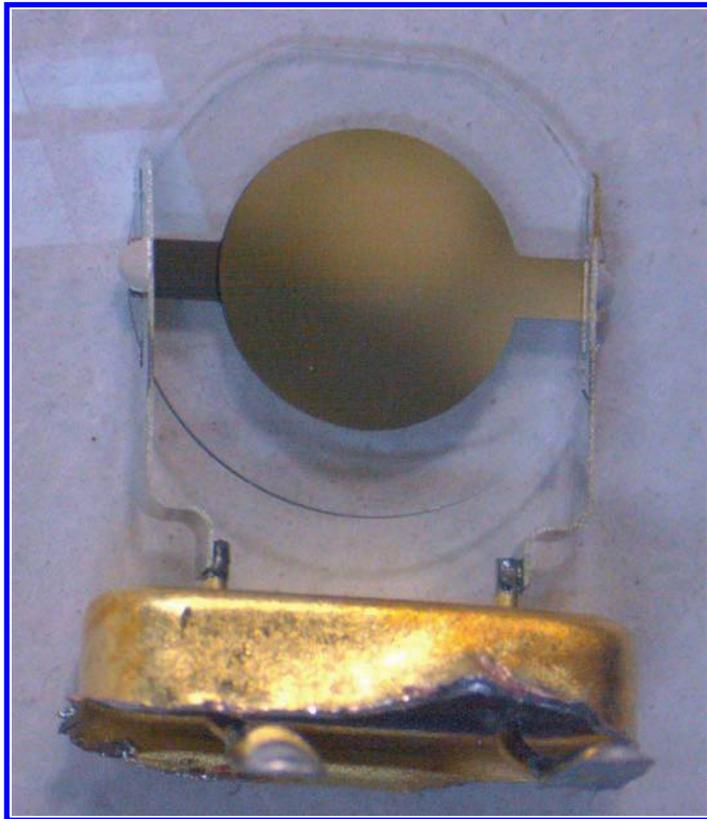

FIGURE 11.19
- #5 *RF Downconverter*: Just as with a smartphone, the usefulness of a GPS receiver begins and ends with the quality of its radio. A GPS RF downconverter contains frequency-translation electronic circuitry to convert the (high) RF of the EM satellite signal (e.g., L1 = 1575.42 MHz) to an intermediate frequency (IF), say 220 MHz, that is more easily manipulated by the subsequent electronics of the digital signal processor of the GPS unit. With GPS, unlike for smartphones, this RF-to-IF conversion is only a one-way process needed to receive the RF signal and then manipulate it.
- #7 *Reference clock*: A "crystal oscillator" is often used to build a stable electronic time-piece; aka a reference clock. Yep, real crystal; but not a semiconductor. Typically we use a quartz crystal. A crystal oscillator is an electronic circuit that exploits the mechanical resonance of a rapidly vibrating crystal of piezoelectric material to create an electrical signal with a very precise and very stable frequency. When a quartz crystal is properly cut and mounted, it can be made to distort in an electric field by applying a voltage to an electrode near to or even on the crystal. This property of crystals is known as piezoelectricity. When the field is removed, the crystal will generate an electric field as it returns to its previous shape, generating a voltage. In essence, the quartz crystal behaves like a miniature electronic circuit composed of an inductor, a capacitor, and a resistor, with a precisely defined "resonant" or vibrational frequency (the well-known RLC resonator). Quartz crystals for oscillators are manufactured for clock frequencies ranging from a few 10s of kHz to 100s of MHz, and several billion such quartz crystals are manufactured annually to enable our e-Gadget world (Figure 11.19)! Stable clocks are needed to keep track of time (duh), as needed in quartz-crystal-powered wristwatches (no more wind-up springs); to provide a stable clock signal for digital ICs (think GPS); and to stabilize the frequencies in radio (e.g., smartphone) transmitters. A little crystal oscillator history? Sure! Piezoelectricity was discovered by Jacques and Pierre Curie in 1880 [5]. Paul Langevin first investigated quartz resonators for use in sonar systems during World War I (hunting for U-boats?!). The first crystal-controlled oscillator, using a crystal of Rochelle rock salt, was built in 1917 and patented in 1918 by Alexander M. Nicholson at Bell Labs. Walter Cady built the first quartz-crystal oscillator in 1921, a precursor for many good things to come. Good ideas stick around. Crystal oscillators are absolutely ubiquitous in all modern (timed) electronic systems and hence a key building block of our Communications Revolution. Yep, pretty important.